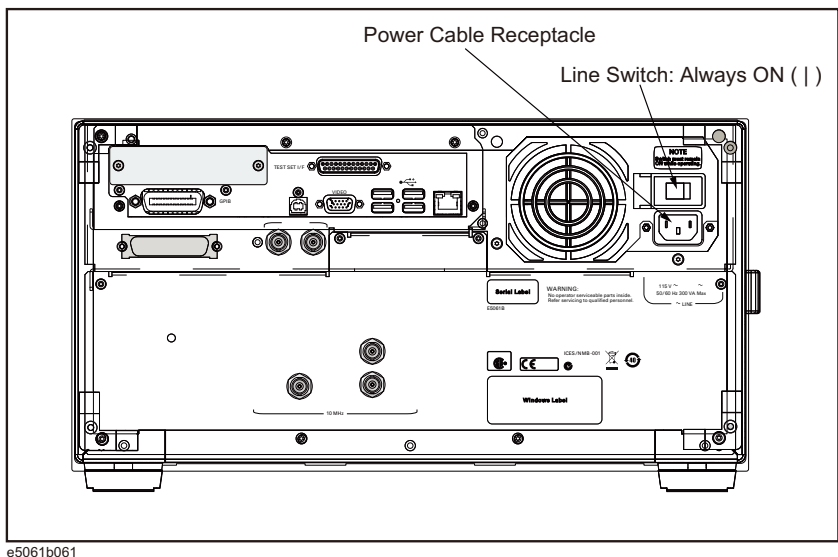

Figure 4 Line switch (Always ON) and power cable receptacle
Step 2. Use the supplied cable to connect between the power cable receptacle (Figure 4 on page 23) on the rear panel of the E4990A and a three-wire power outlet with the grounding prong firmly connected in the ground slot.